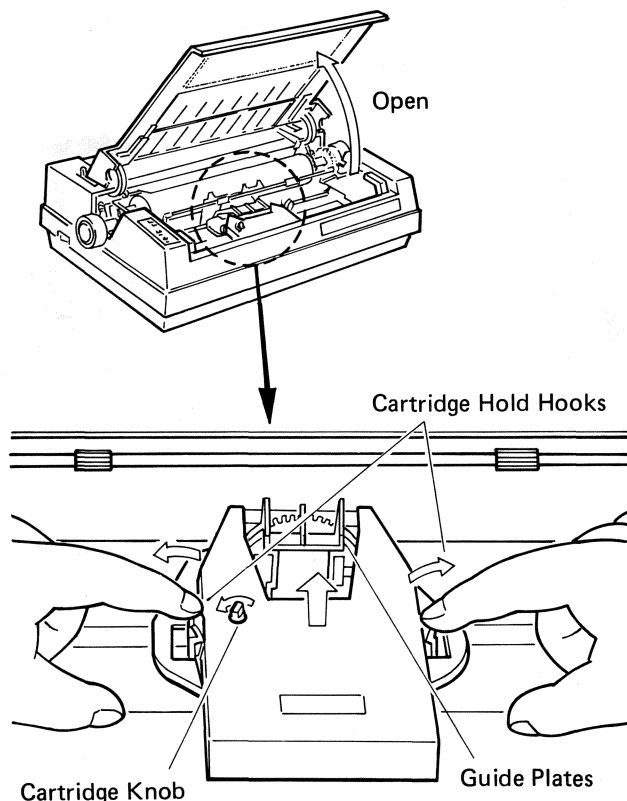

Figure 7. Installing the Ribbon Cartridge
2. Gently press the Ribbon Cartridge Hold Hooks (left and right) outward (see Figure 7).